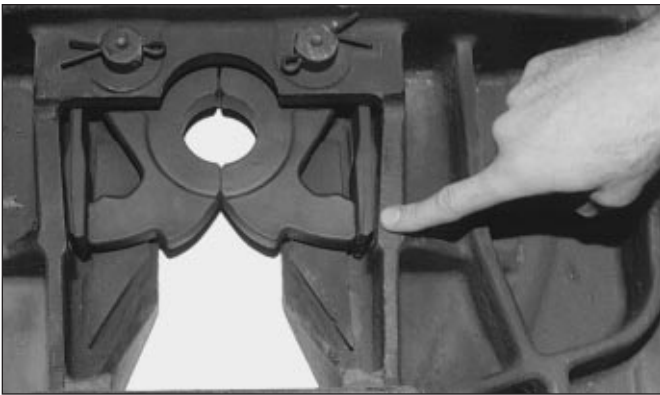

FIGURE 1
1. Lubricate lock pin holes with NeverSeez DO NOT SUBSTITUTE. Install locks (4), making sure they are properly oriented (the "TOP" marked on each lock should face the fifth wheel casting), followed by pins (3), spring (5) and cotter pins (2).
2. Install yoke (12), spring (13) and yoke shank (14) so that the indentation in yoke shank (14) is aligned with hole in yoke (12). When yoke (12) is installed, the yoke tips must be flush with ends of the locks (4) or extend beyond (See FIGURE 1).